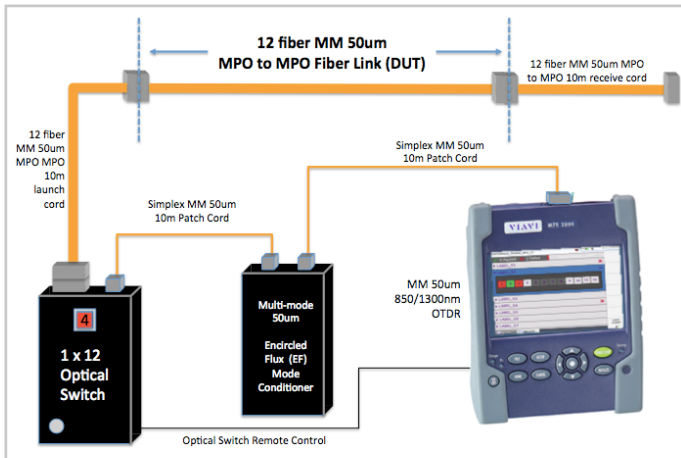

Figure 6. MPO Link Test Setup for faster testing
- An EF mode conditioner device can be inserted during testing between the OTDR (or other test source) and the fiber under test. This device conditions the launch signal for EF compliance before the test signal enters the fiber under test (see Figure 6 later in this document). When paired with an external mode conditioner, the MTS/T-BERD 2000 allows any 50um multimode test source to provide testing results that comply with the new EF standards.